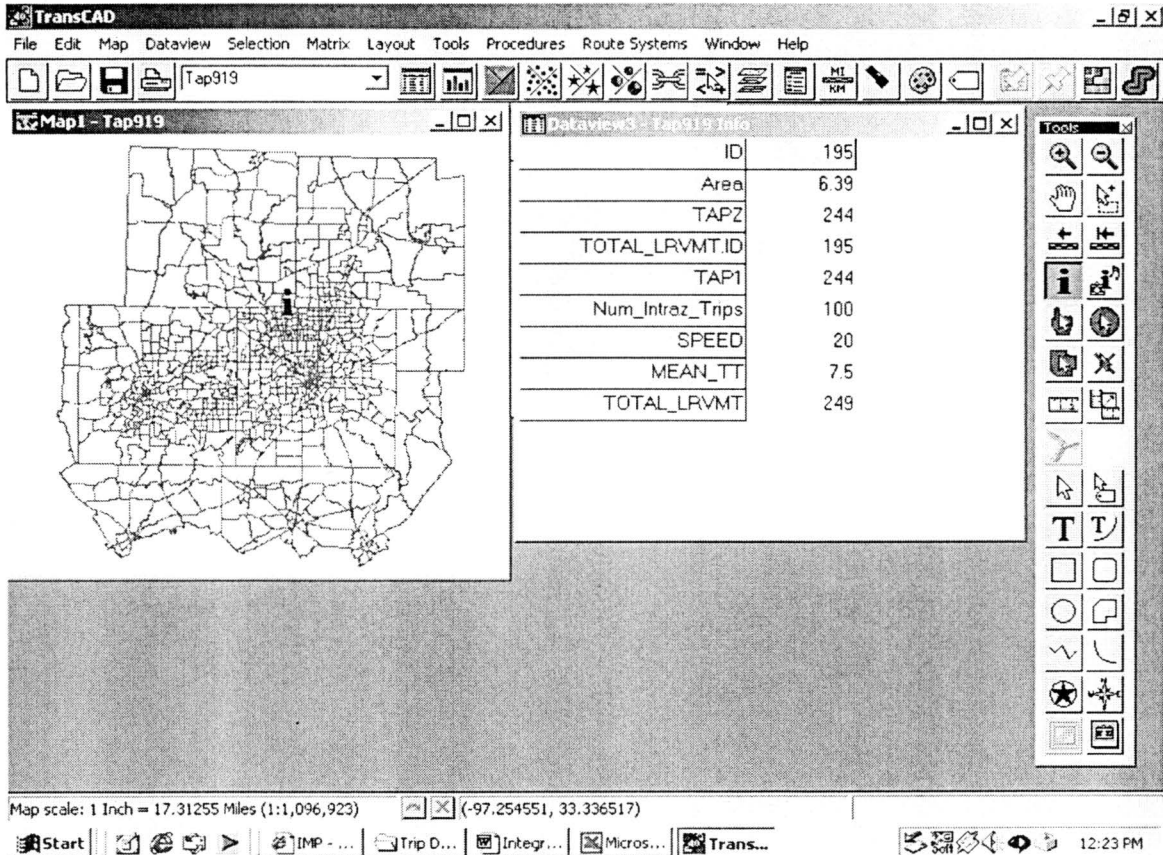

Figure I-3. Local road VMT results
3. The Figure below (Figure I-3) is an illustration of what the user can expect to see when the above two steps have been completed.